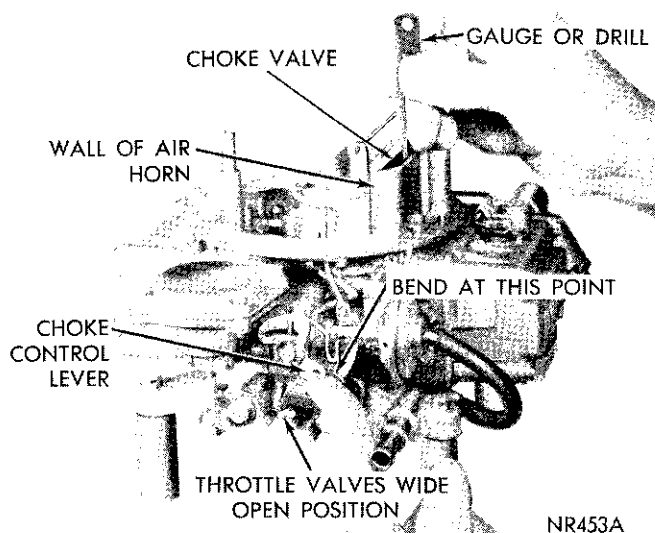

Fig. 19—Choke Unloader Adjustment (Wide Open Kick)
- (1) Qualify the choke control lever, if necessary. (See Qualifying Choke Control Lever Paragraph).
- (2) Hold the throttle valves in the wide open position. Insert the specified drill between the upper edge of the choke valve and the inner wall of the air horn (see specifications).
- (3) With a finger lightly pressing against the choke control lever, a slight drag should be felt as the drill is being withdrawn. If an adjustment is necessary, bend the indicated tang until correct opening has been obtained (Fig. 19).